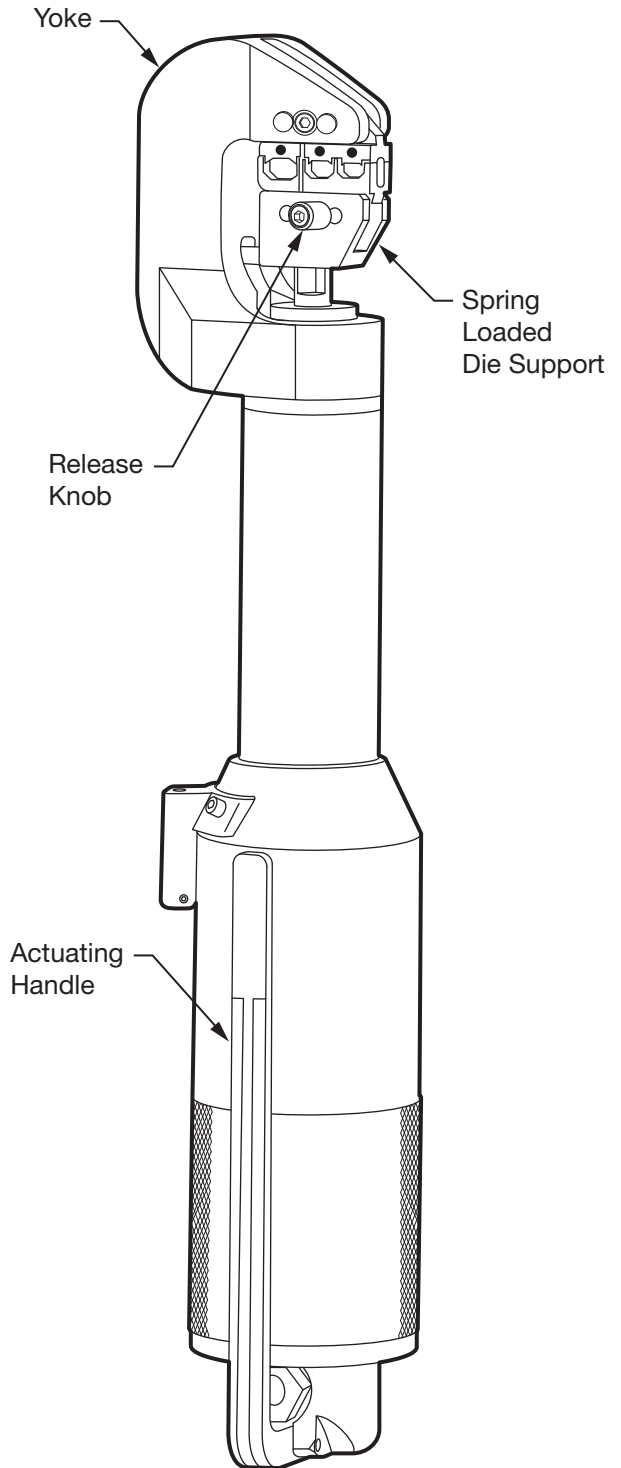

FIGURE 1
1. To operate the tool properly, it is essential to hold the actuating handle (see Figure 1) down until the tool cycles completely. This assures a sustained volume of air in the cylinder at full pressure to complete the crimp.
1. Using release knob (see Figure 1), open spring loaded lower die.
4. Depress and hold the actuating handle (see Figure 1) until tool ram extends completely. Repeat Step 4 for the next crimp (see Figure 3).